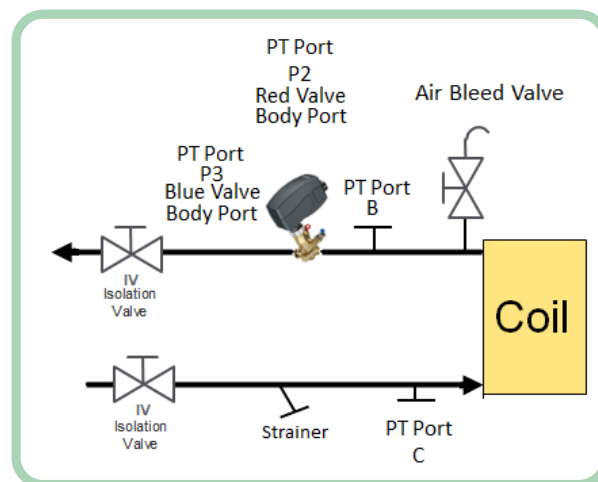

Figure 2. Typical Valve Installation with Field Installed PT Points and DN10 to DN32 PIBCV with PT Points
5. If a DN15 to DN32 valve, such as the VP228E-20BQS, is equipped with two integrated PT Points, the blue Port P3 on the valve can be used instead of a field installed Port A as shown in Figure 2 (pressure measured between PT Port P3 {blue} and PT Port B).